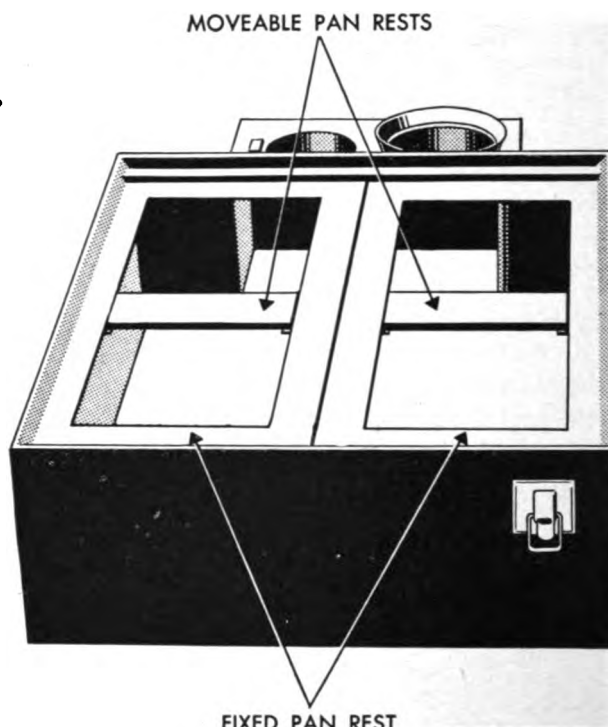
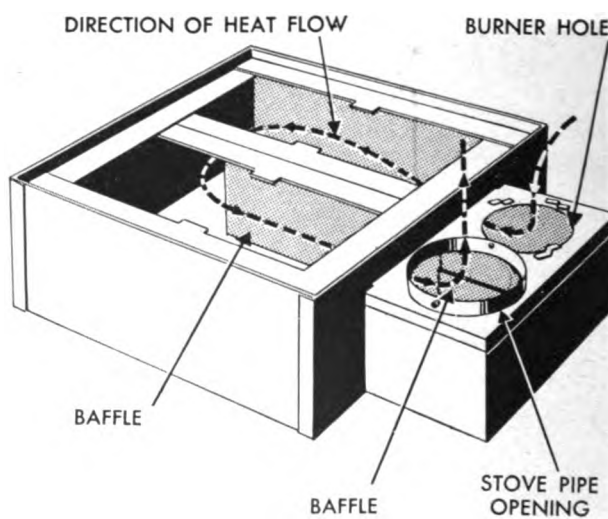

Figure 24. Outfit, cooking, small detachment, top view.
Figure 25. Stove, outfit, cooking, small detachment top view, showing heat flow.
b. The lower (burner) section of the stove is well insulated on bottom and sides. A central baffle plate causes the heat to circulate throughout the stove. (See fig. 25.) The upper section consists of a windshield and a cover which locks to it. When the stove is carried on a packboard, this cover locks over the lower section.
(4) Before shifting pots or pans, or removing them from the stove, raise the baffle between the burner and the stack (see fig. 25) and reduce the flow of fuel to a very slow drip, to avoid danger of flash heat.
(5) To conserve heat and speed up cooking, keep the pots covered as much as possible and let windshield cover rest on the raised pot handles.
(6) To increase the uniformity of heating, it is often desirable to have a piece of sheet metal under the pots near the burner.
(7) Remove the pan rests (see fig. 24) when the long boilers are used, or the uneven heat will warp these pots.
(8) Use the sterilizer as a tub for washing utensils.
**b. MAINTENANCE.** (1) See paragraph 19b.